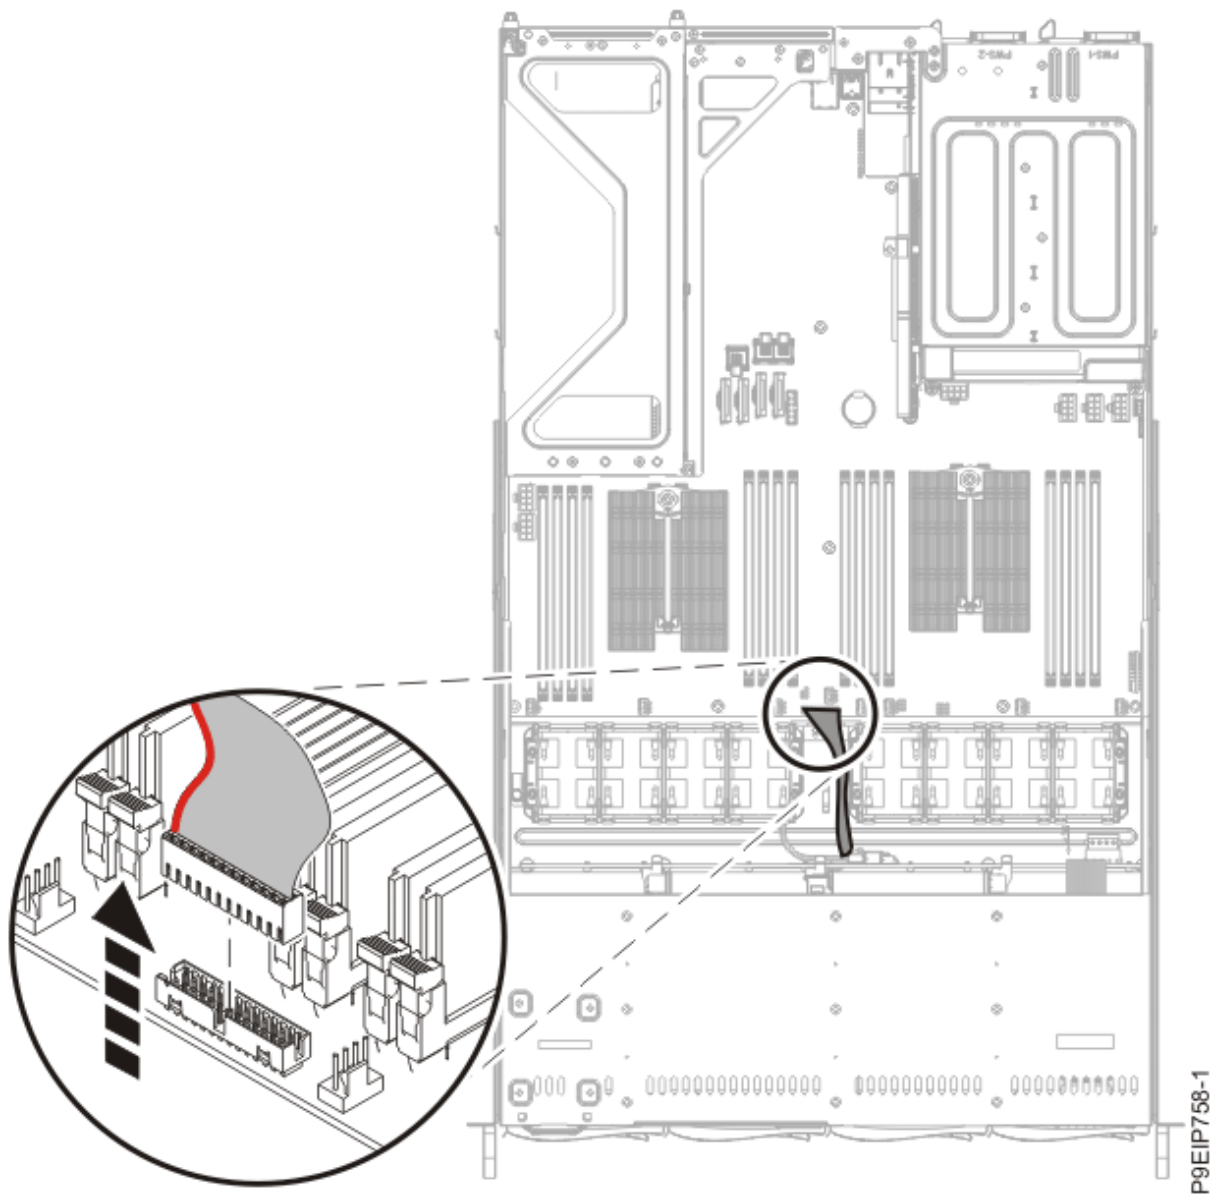

Figure 35. Removing the operator panel cable
11. Remove the operator panel cable from the system backplane as shown in Figure 35 on page 39.